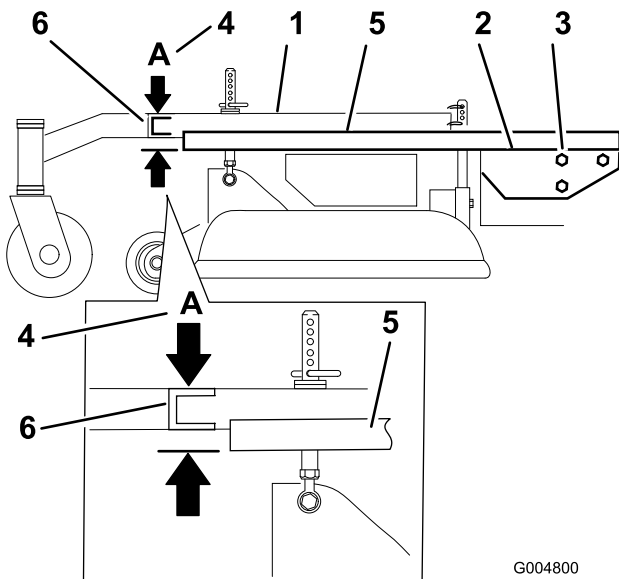

Figure 54
3. Place a long straight edge on top of the engine deck as shown in Figure 54.
4. At the carrier frame cross channel, measure the height at location **A** (Figure 54). This measurement must be 1-5/16 inch (33 mm), plus or minus a 1/4 inch (6 mm).
6. Loosen the carrier frame mounting bolts on both sides of the machine (Figure 54).
7. Align the carrier frame and engine deck to match 1-5/16 inch (33 mm), plus or minus a 1/4 inch (6 mm) at location **A** (Figure 54).